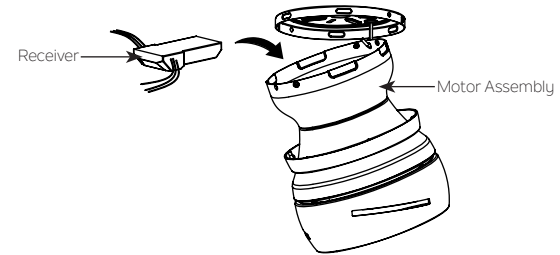

Fig. 9
Step 1. Insert the receiver into the motor assembly, and keep flat in opposition of ceiling. (Fig. 9)